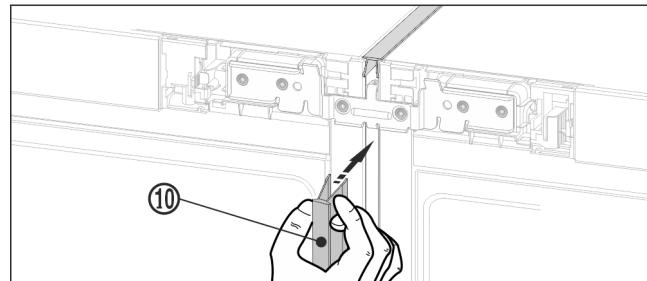

Fig. 18
- ▶ On the front, press the long cover strip Fig. 18 (10) into the vertical gap. Ensure that the strip rests on the connecting plate.